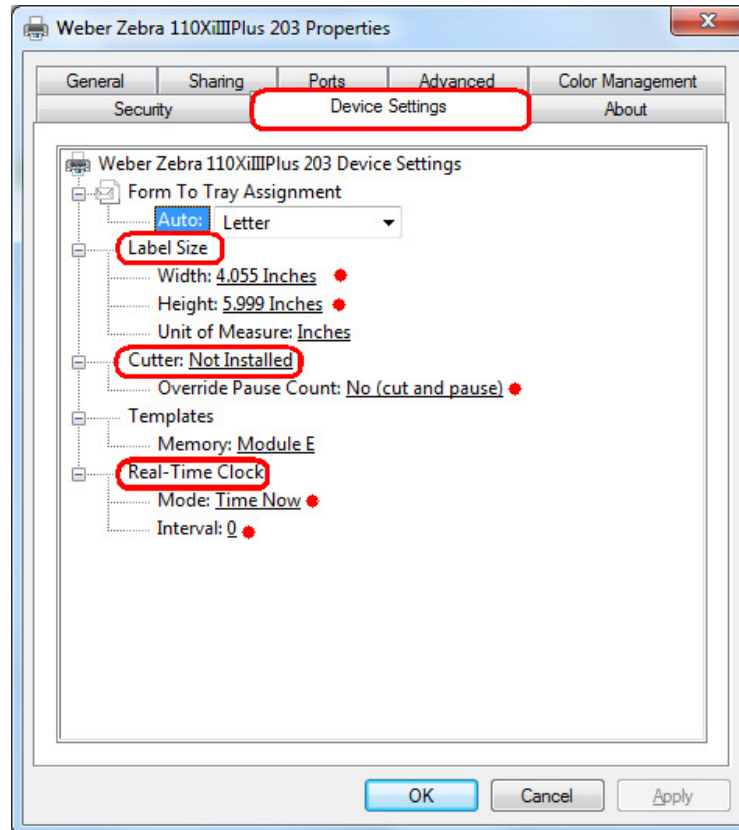

Figure 21
17. **Printer Properties – “Device Settings” Tab** - takes you to the printer’s device settings for Label Size, Cutter(*if your model printer supports it*), Template Memory(*if your model printer supports it*), and Real-Time Clock (RTC)(*if your model printer supports it*) settings that can be setup in the driver to send down commands to the printer for each label design if needed, as shown in (Figure 21) below:
18. Click **OK** to finish setting up your printer. (Figure 21)